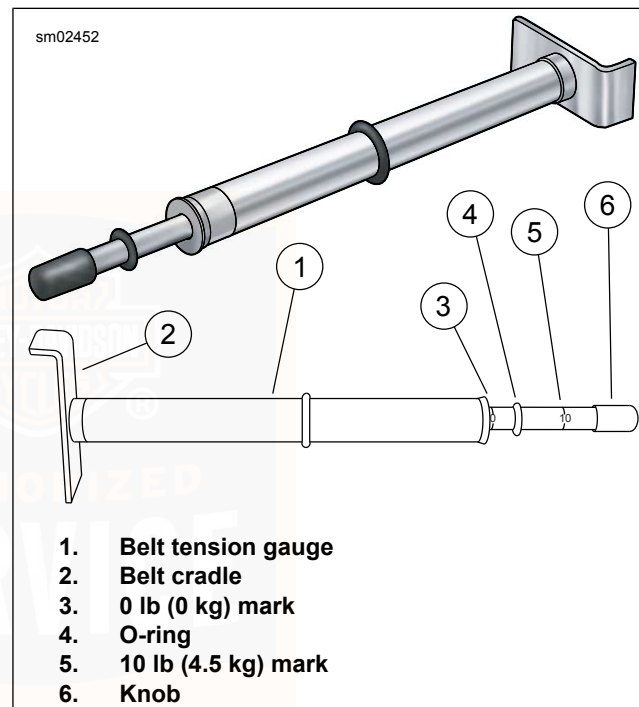
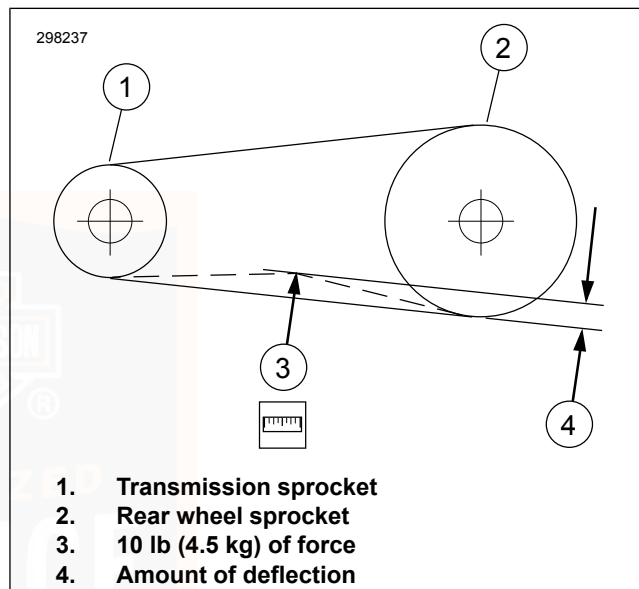

Figure 63. Belt Tension Gauge
Figure 65. Checking Belt Deflection
3. See Figure 63. Measure belt deflection using BELT TENSION GAUGE (PART NUMBER: HD-35381-A):
- a. Slide O-ring (4) to zero mark (3).
- b. **Models equipped with belt deflection window:** Fit belt cradle (2) against bottom of drive belt in line with belt deflection window.
- c. **All other models:** Fit belt cradle (2) against bottom of drive belt halfway between drive pulleys.
- d. Press upward on knob (6) until O-ring slides down to 10 lb (4.54 kg) mark (5) and hold steady.
- a. **Models equipped with belt deflection window:** See Figure 65. Measure belt deflection as viewed through belt deflection viewing window while holding gauge steady. Each deflection graduation is approximately 1/16 in (1.6 mm).